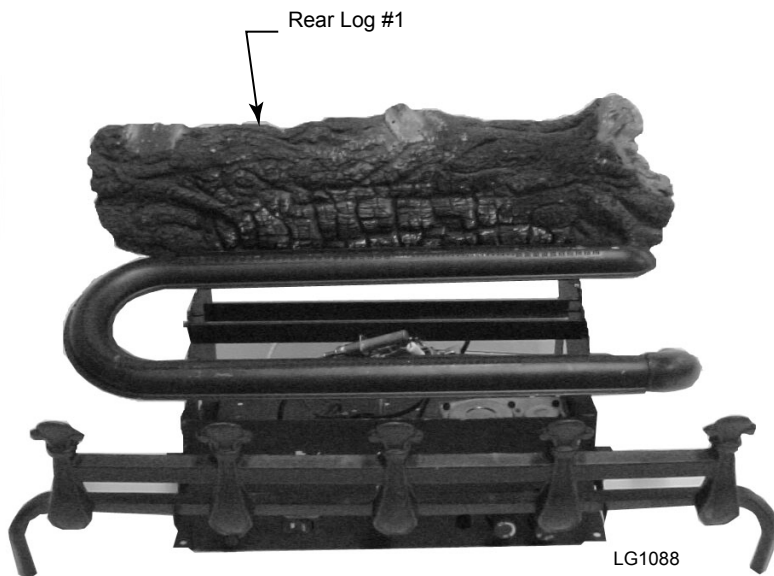

Figure 21
1. Place Rear Log (#1) on rear support. *Figure 21*